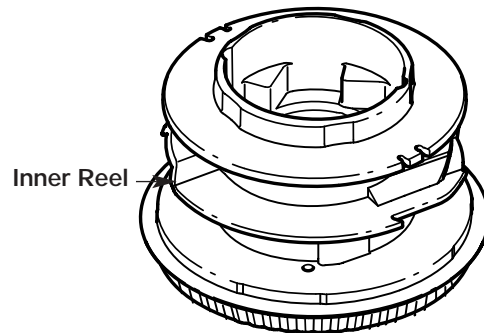

Fig. 45
4. Remove any existing line from the inner reel before cleaning. Remove any debris or grass from the knob, spring, inner reel and foam seal. Wash the inner reel with warm soapy water (Fig. 45).